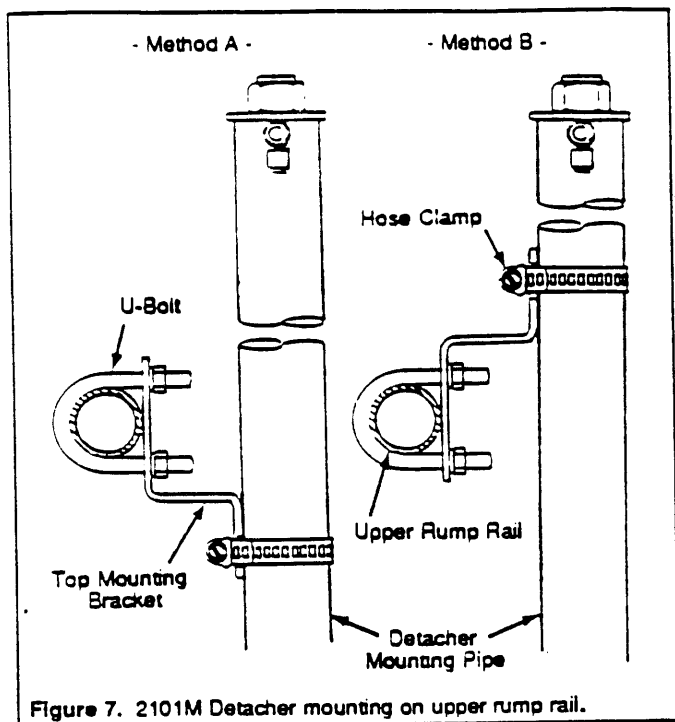

Figure 7. 2101M Detacher mounting on upper rump rail.
9. Assemble the top mounting bracket to the upper end of the mounting pipe using the stainless steel hose clamp. (See Figure 7 for alternate bracket mounting.)